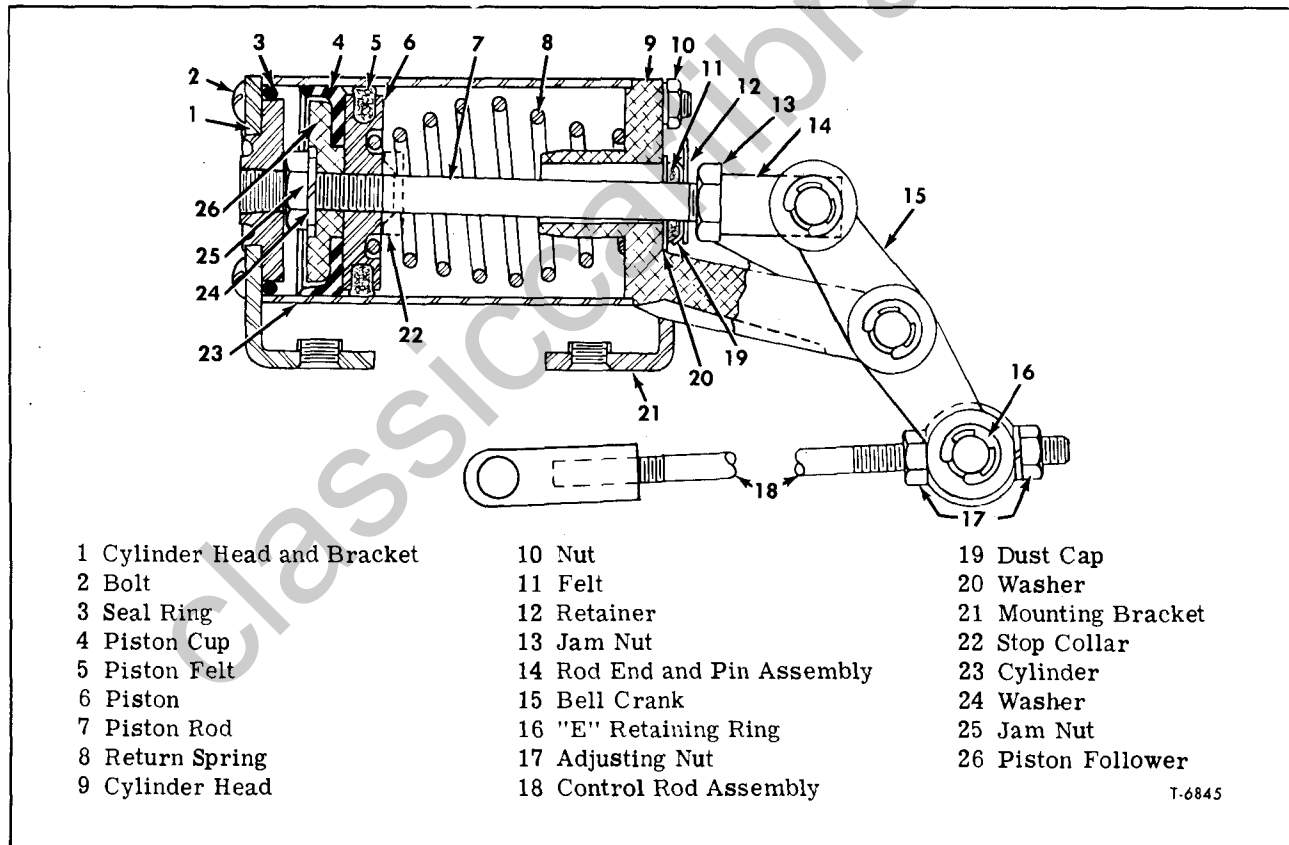

Figure 10—Shutter Control Air Cylinder (TV70)
NOTE: Key numbers refer to figure 10.
1. Referring to figure 10 for proper positioning of parts, insert piston rod (7) through retainer (12), dust cap (19), felt (11), washer (20), and into cylinder head (9). With piston rod attached to rod end and pin assembly (14), secure bell crank (15) to rod end assembly with two "E" retaining rings (16).
2. Position the following parts on piston rod: Return spring (8), piston (6), with a new felt (5), piston cup (4), piston follower (26), washer (24), and nut (25). Tighten nut securely.
3. Carefully slip cylinder (23) over piston assembly, until cylinder makes contact with cylinder head (9).
4. With seal ring (3) in position, install cylinder head and bracket (1). Install through-bolts (2) and nuts (10). Tighten nuts securely.
5. Secure control rod assembly (18) to bell crank (15) utilizing adjusting nuts (17) and "E" retaining rings (16).
NOTE: The actual adjustment is made by repositioning the shutter control rod assembly (18, fig. 10). Reposition two adjusting nuts (17) as required, with air applied until vanes of shutters are fully closed.